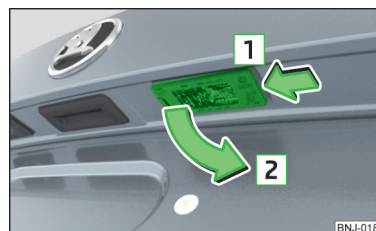

Fig. 214
- Push in the lamp in the direction of the arrow **1** » Fig. 214.